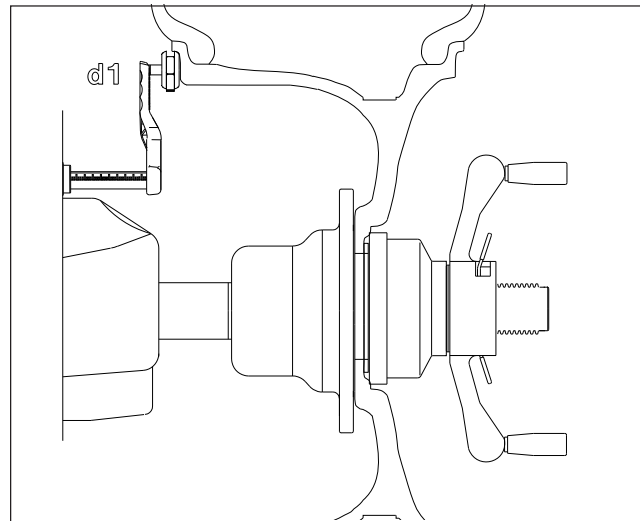

Figure 31
2. Extend the rim offset gauge arm and touch the position of the left weight position. See Figure 31. The display will read "d - 1". The high tone will sound when dimension is entered. Return the gauge arm to the rest position, a low pitch tone will indicate when it is OK to proceed.